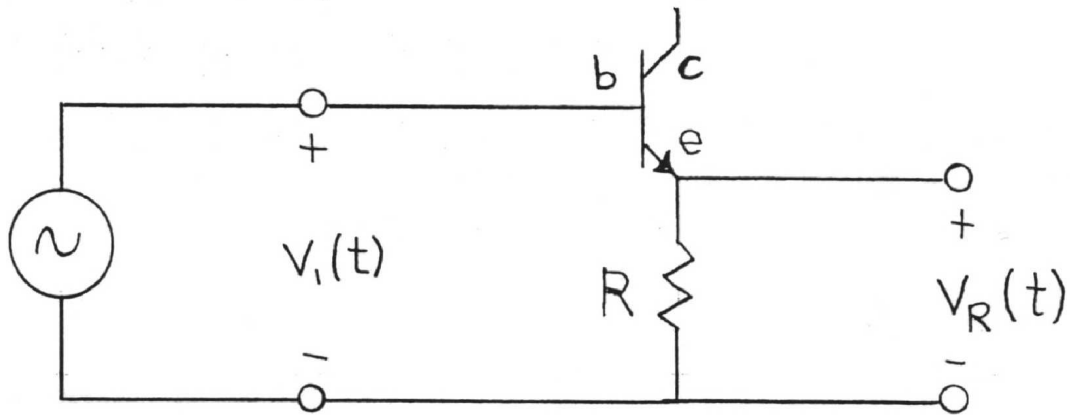

Figure 1: Circuit to rectify a voltage.
1. Set your function generator to produce a sinewave of 400 Hz frequency and 1.5 V amplitude and attach it to the circuit of Figure 1. (I recommend using a 40–50 k Ω resistor as R shown in the circuit diagram). Sketch (or photograph) $V_1(t)$ and $V_R(t)$ from the oscilloscope; use the same voltage scales and the same zero position for both $V_1(t)$ and $V_R(t)$.
5. To complete the constitutive relation we must turn the diode around. Make the same measurements as in the previous step with the diode reversed (V_{EB} instead of V_{BE}). Modify the code to show V_{BE} as a negative voltage and I as a negative current. ALSO, because the currents in the reverse bias direction are so small, you should change the resistor R in figure 1 to around 250 k Ω . Combine these results with the current table. (Not asking you to do that with the Arduino itself ... this is a cut and paste request!) Capture the data and plot the full constitutive relation of a diode. (You may want to do two plots since the reverse bias current probably appears to be zero on the scale where you can see the forward current).